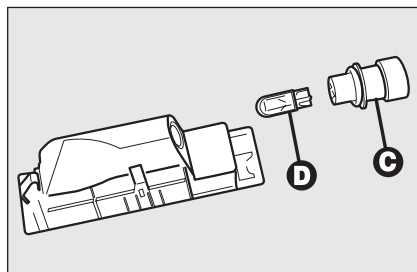

fig. 37
- ☐ remove the bulb holder **C-fig. 37** by turning it slightly and replace the snap-fitted bulb **D**.